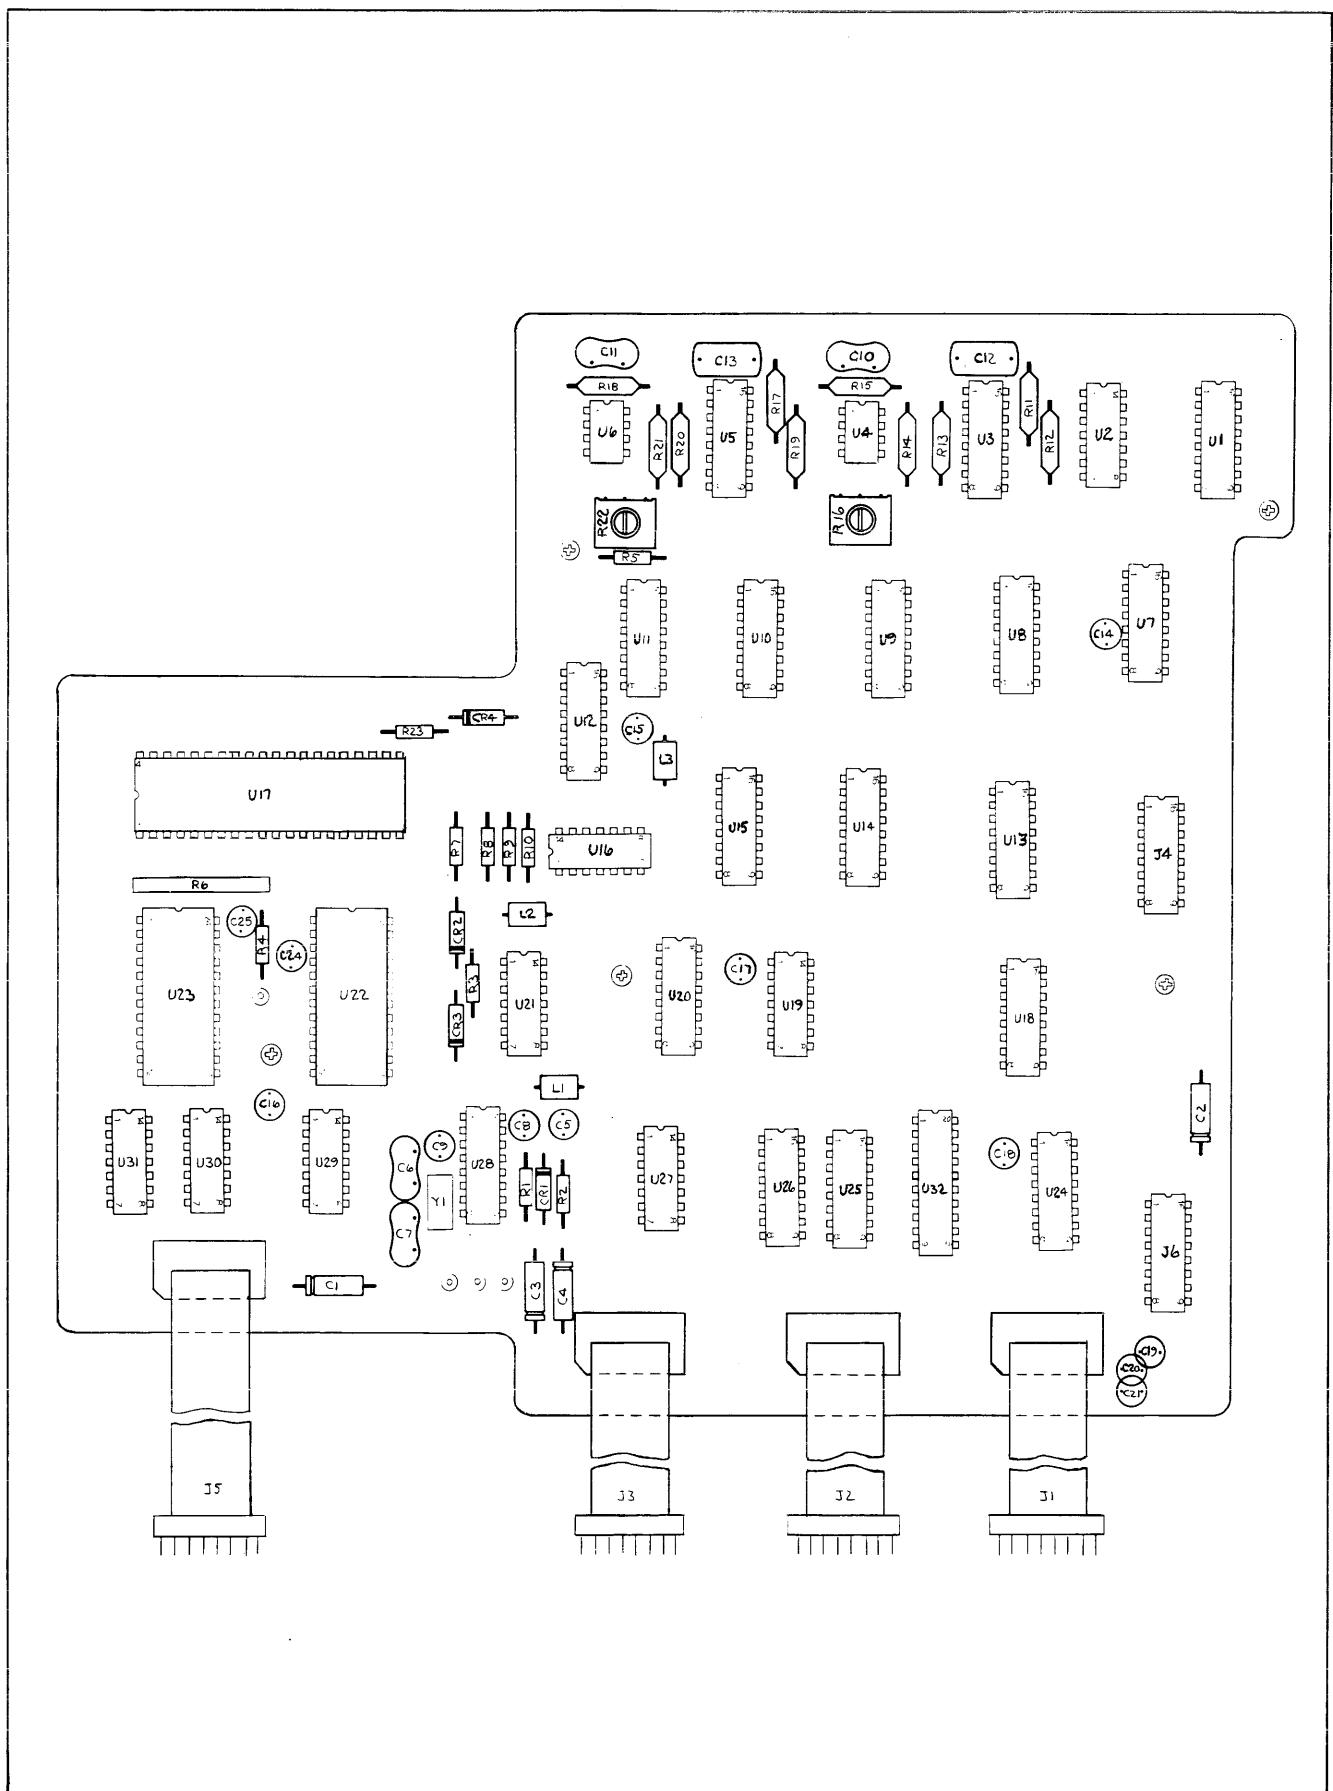

Figure 615-8. A17 Processor PCB Assembly
A17	⑧IEEE-488-1975 PROCESSOR PCB ASSEMBLY (1953A-4041) (FIGURE 615-8)